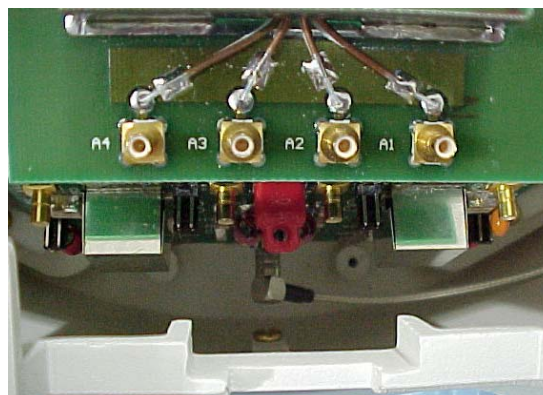

Figure 23: Jacks A1 through A4.
Step 5 – Plug connectors J1 through J4 into corresponding jacks A1 through A4 (see *Figure 23*).